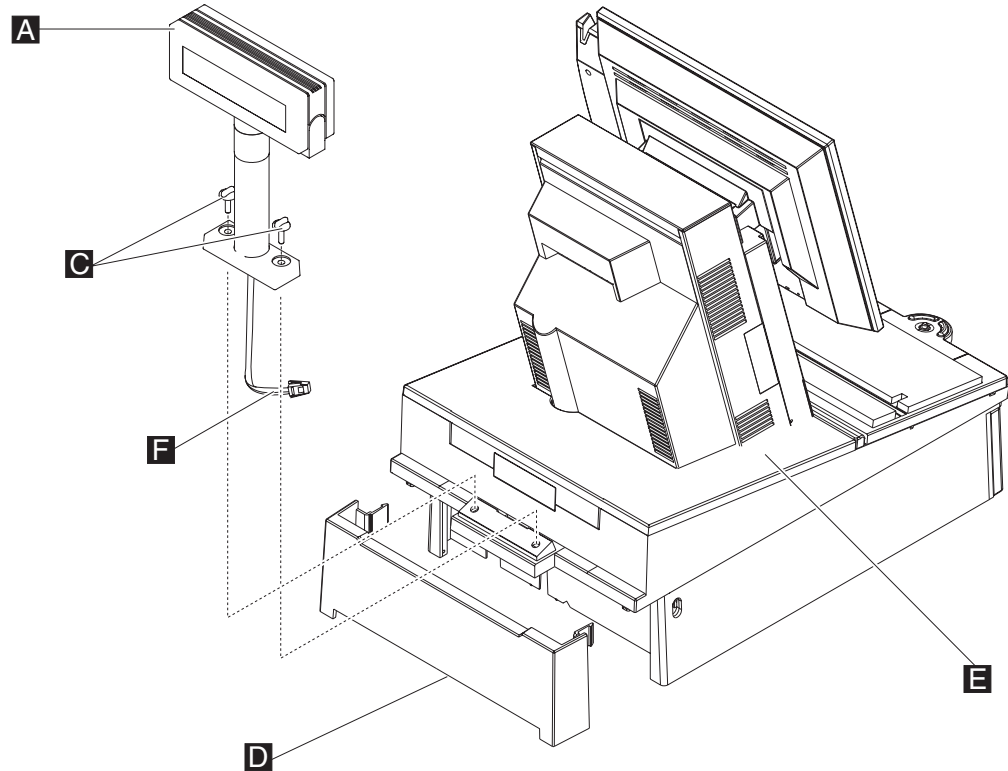

Figure 75. Remove the distributed customer display from integration tray
- b. Remove filler panel **E** Figure 75 on page 99.
- d. Remove the cash-drawer rear cover **D** Figure 75 on page 99. Push in the two buttons located at the rear sides of the cash drawer and then pull the cash-drawer rear cover back and off.
- b. Unroute the distributed character display cable **F** to enable the distributed character display to be removed, as show in Figure 75.